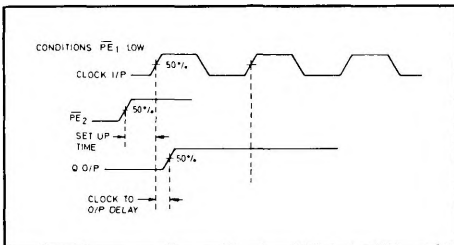

Fig. 3 Set-up timing diagram
- Set-up time is defined as the minimum time that can elapse between a L \rightarrow H transition of a control input and the next L \rightarrow H clock pulse to ensure that the $\bar{2}$ 10 mode is forced by that clock pulse (see Fig. 3).